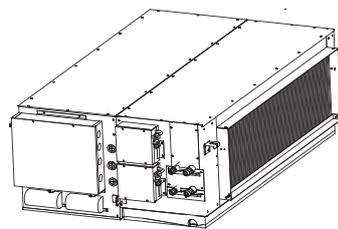

Fig.4-19
- 1 The indoor unit show as *Fig.4-19*